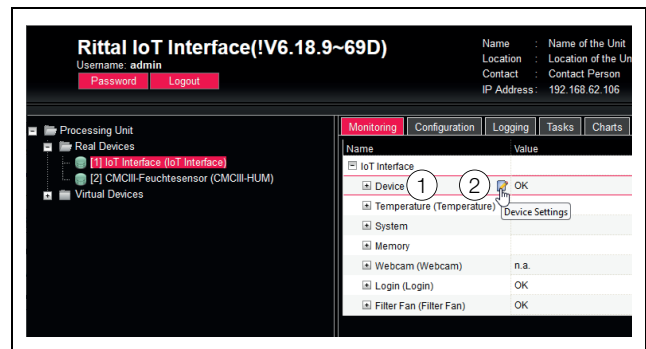

Fig. 26: Selecting several parameters
- Expand the "IoT interface" entry by clicking the "plus" character in front of this entry (fig. 26, item 1).
- Place the mouse cursor at the end of the first column in the "Device" row (fig. 26, item 2).